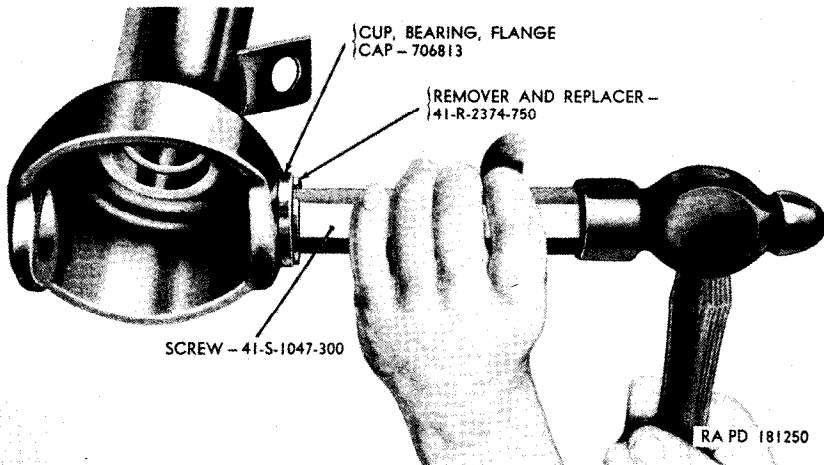

Figure 114. *Installing bearing cup in front axle steering knuckle.*
- (5) Install the steering knuckle flange cap bearing cups (M and AA, fig. 95) with remover and replacer 41-R-2374-750 and screw 41-S-1047-300 (fig. 114).